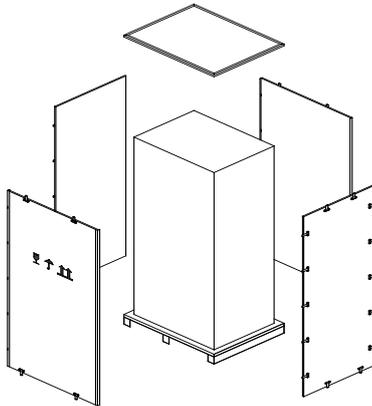

Fig. 15. Disassemble the case
3. Open the top plate of the steel-edged wooden case with slotted awl and pier, followed by side boards (see Fig. 15).